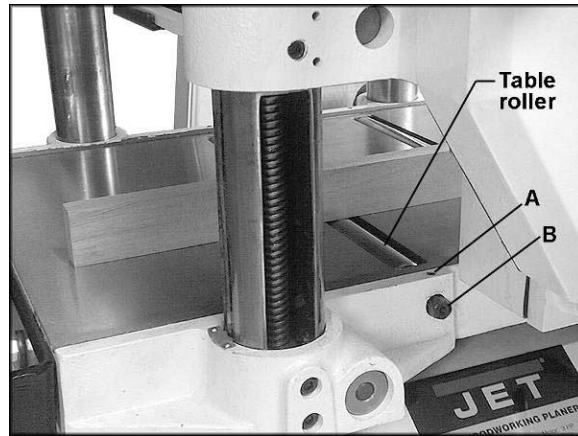

Figure 14
Your planer is supplied with two table rollers (Figure 14) which turn as the stock is fed into the machine, thus reducing friction. It is not possible to give exact dimensions on the proper height setting of the table rollers because each type of wood behaves differently. As a general rule, however, when planing rough stock the table rollers should be set at high position. When planing smooth stock the rollers should be set at low position.
3. On one side of the table, loosen the set screws (A, Figure 14) with a 3mm hex wrench, and turn the eccentric shafts (B, Figure 14) to raise or lower the rollers.